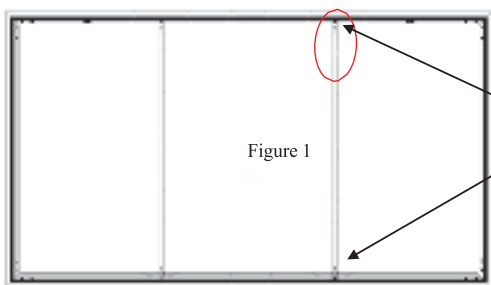

Figure 1
1. Position the *center support bar (E)* and *M6 hex screws* in the areas of the frame shown in fig 1. (Each about one thirds the way in from the end of the frame.) Align the hole on each end of the support bar with the *M6 hex screws* located at the top and bottom frame sections. Then fasten with the *M6x12 screws*.